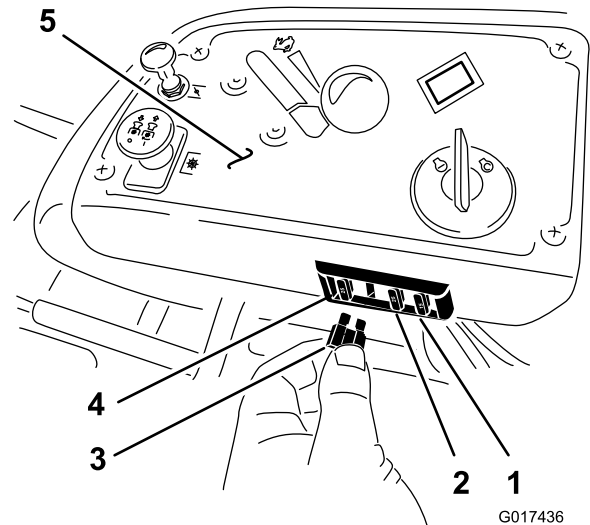

Figure 49
1. The fuses are located on right hand console next to the seat (Figure 49).
3. Install a new fuse (Figure 49).